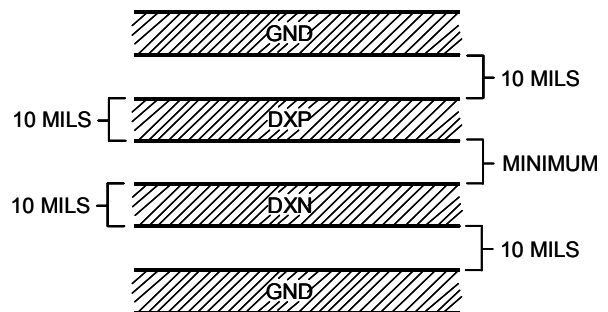

Fig 2 (b) Recommended DXP/DXN PC
Use wide traces. Narrow ones are more inductive and tend to pick up radiated noise. The 10 mil widths and spacing recommended on Figure 2 aren't absolutely necessary (as they offer only a minor improvement in leakage and noise), but try to use them where practical.
■ Fig 2(a) Connect the common DXN as close as possible to the DXN pin on IC.